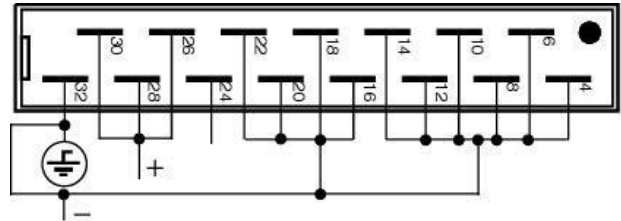

Figure 12. Input to output and input to case isolation voltage test.
2. Connect the output terminals of the converter to case. See *Figure 12*.
4. Connect your isolation tester between input and case. See *Figure 12*.
4. Connect your isolation tester between input and case. See *Figure 12* Raise the voltage of the isolation tester from 0 to 2500 Va.c. The voltage should not be applied for more than one (1) minute or the Y capacitors might be damaged.